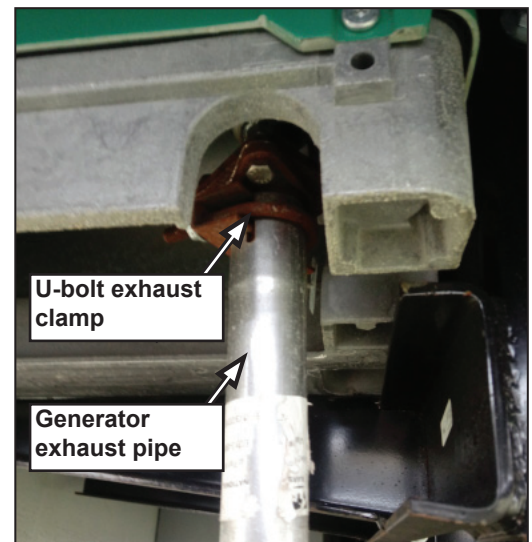

Figure 4
6. Referencing Figure 4, remove the generator exhaust pipe by loosening the U-bolt clamp securing the generator exhaust pipe to the generator with a ratchet and a ½” deep well socket. Set aside the U-bolt exhaust clamp for later reinstallation. Discard the generator exhaust pipe as it will not be reinstalled.